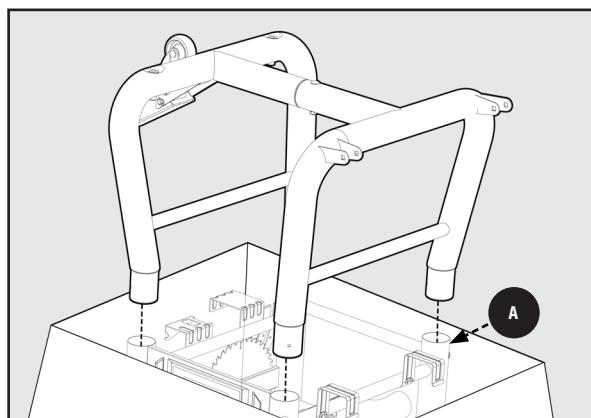

Figure 2
2. Insert the four open ends of the Tube Legs into the Leg Collars **A** as shown. Using a 10mm Wrench, secure each Leg to the Saw Body with (4) M6 x 72mm Carriage Bolts **HP4** and (4) M6 Nylock Nuts **HP5** and tighten. See Figure 2.